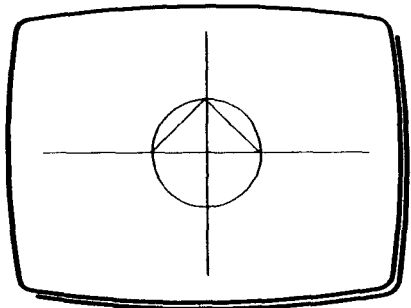

Fig 4
- 3 Select **PAGE** from the Menu. The drawing will re-appear at base page scale, and will include the added detail (Fig 4).